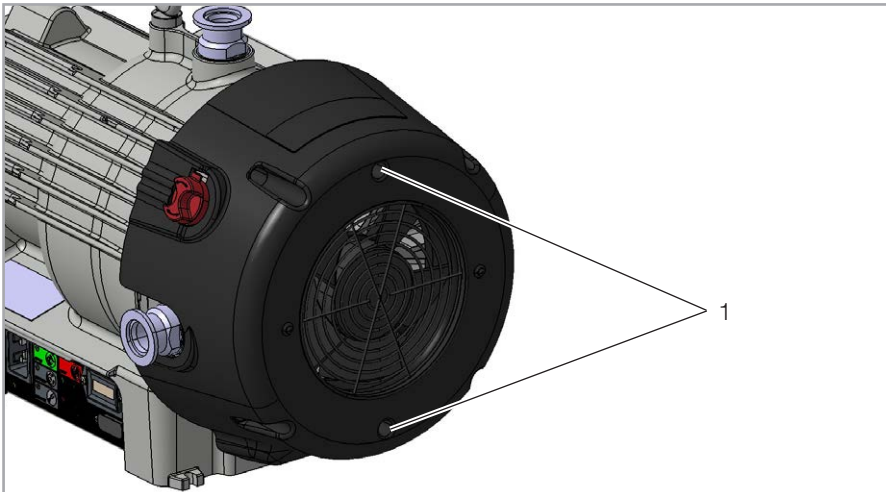

Figure 1 - Fan cowl removal
2. Using a 4 mm Allen key, undo the two screws (Figure 1, item 1) which secure the fan cowl and remove.